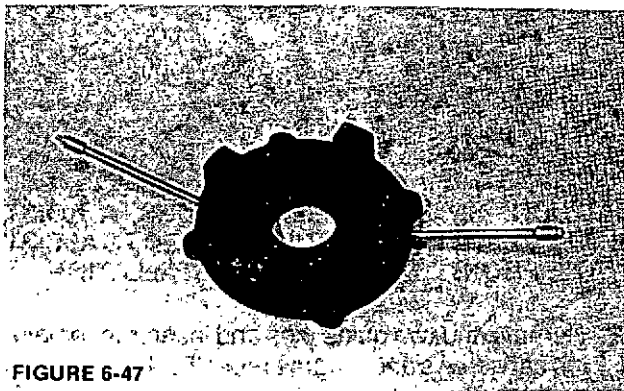

FIGURE 6-47
1. Remove the filler and drain grease pipes and the grease plugs from outer bearing cap. (Figure 6-47.)
5. Inspect the mounting pads for the PMG stator and exciter stator. Be sure they are smooth, clean, and free of any burrs or rust. That could interfere with proper alignment. (Figure 6-47 and 6-48.)